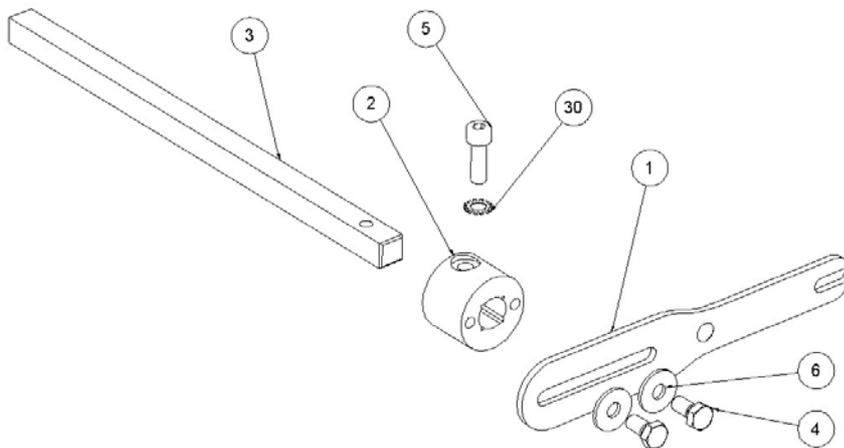

Figure.1
(30). Once together, they must be joined to a handle (1), through two M8 x 16 DIN 933 screws (4) and two washers DIN 9021 M8 (6), making sure that the countersink of the handle is on its inner face, - Fig. 1 -.